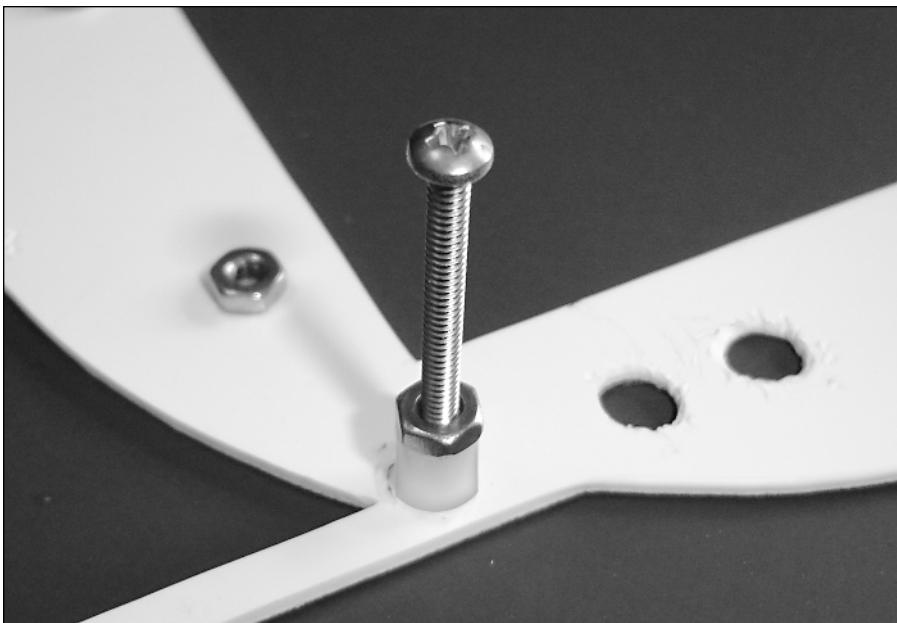

FIGURE 10-5: Attaching the size-4 nuts to nylon spacers.
5. Attach a size-4 nut to the top of the two lower 1/4" nylon spacers, as shown in Figure 10-5. Center it by threading a size-4 screw through and placing it in the nylon spacer below—just be sure not to glue the screw down with the nut!